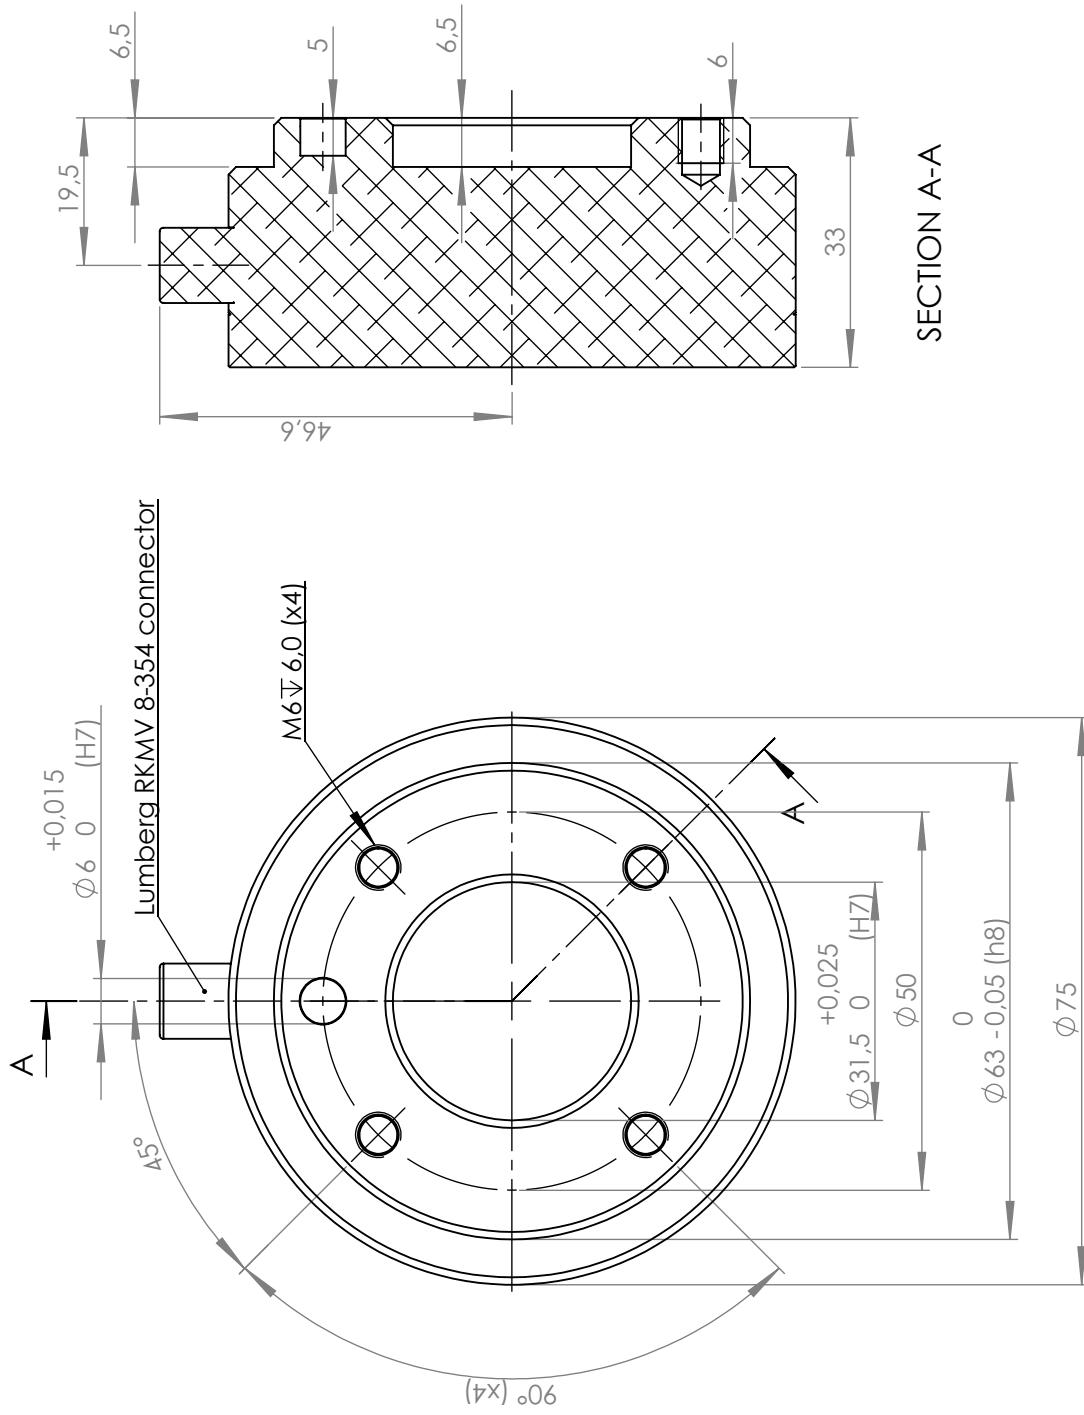

Figure 3.2: The tool output flange, ISO 9409-1-50-4-M6. This is where the tool is mounted at the tip of the robot. All measures are in mm.
**Tool** The robot tool flange has four M6 thread holes for attaching a tool to the robot. The holes need to be tightened with 9 Nm. If very accurate repositioning of the tool is desired, the Ø6 hole is provided for use with a pin. Figure 3.2 shows where to drill holes and mount the screws.